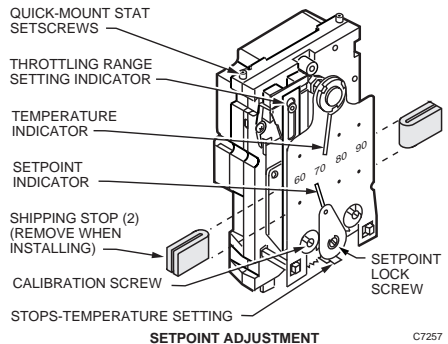

Fig. 6. TP970 Series Thermostat with Cover Removed.
8. Remove shipping stops (see Fig. 6).